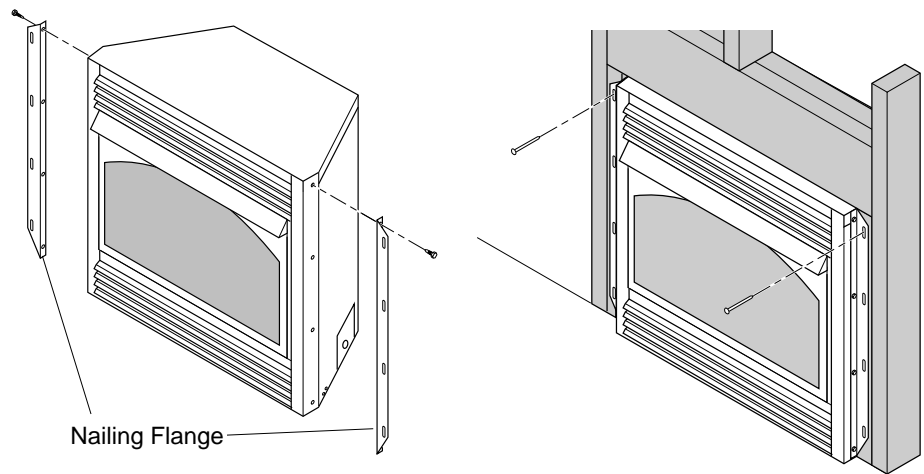

Figure 14 - Installing and Attaching Nailing Flange Accessory
1. Attach nailing flange accessory to each side of fireplace (see Figure 14). See *Accessories*, page 33, for nailing flange.
3. Attach fireplace to wall studs using nails or wood screws through holes in nailing flange (see Figure 14).